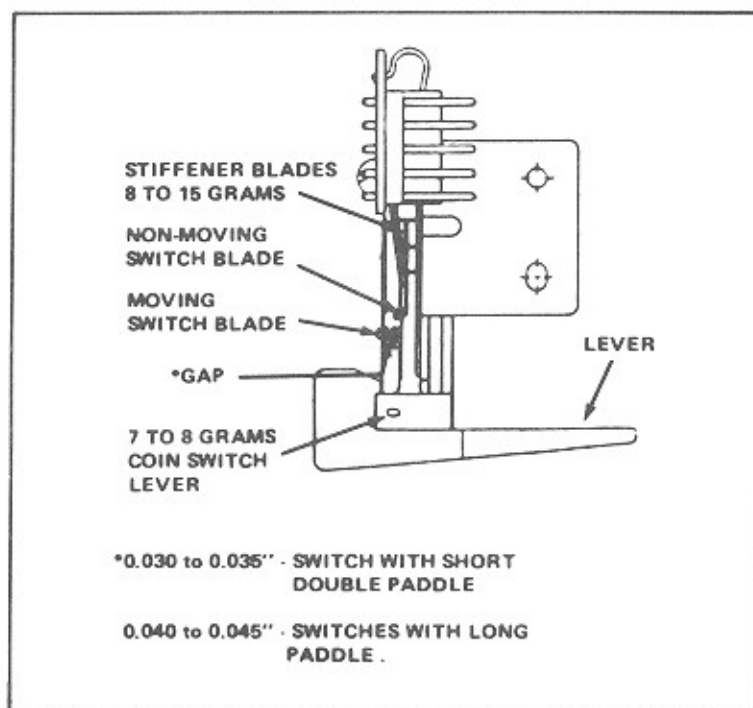

Figure 3-24. Contact Pressure and Gap Adjustment
1. Check that each moving switch blade pushes against its lever with 7 to 8 grams force to hold the lever against the cushion (See Figure 3-24.). To adjust the pressure, bend the blade near its mounting point.